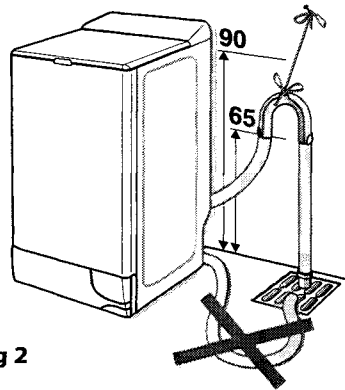

Fig 2
1. Ensure hooked end of drain hose is positioned between 90 and 65cm above the bottom of the machine (Fig 2).
The waste water can be drained onto the ground, so long as the drain hose passes through a point between 90 and 65cm higher than the bottom of the machine (Fig 2).